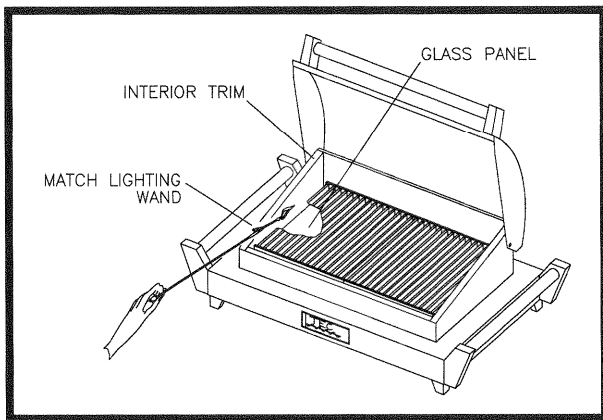

Figure 11 Match Lighting
3. Remove the match holder from the drip tray (See Figure 11 Match Lighting).
5. Place the flame of the lighted match in the space between the glass panel and the interior trim on the left side of the grill. The match flame should be below the level of the glass panel. (See Figure 11, page 11).